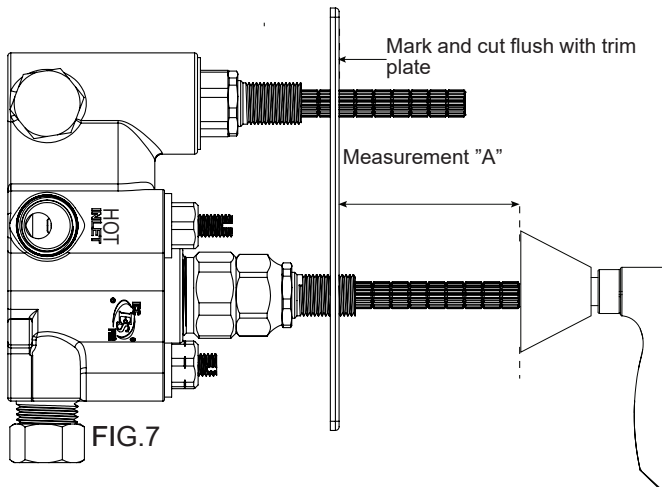

FIG. 7
3. Install the Handle fully onto the Thermo Stem Extension until the Stem bottoms out on the Stem of the Handle. Carefully measure the distance from the Trim Plate to the bottom of your Escutcheon. For the Diverter/Shut-off Stem Extension mark flush with trim plate. Hold the Trim Plate firmly against the wall to get an accurate measurement. FIG. 7